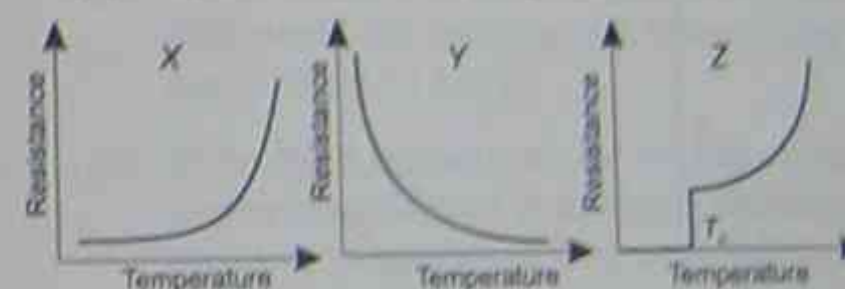

Figure 3.41
- 13 Graphs of resistance versus temperature for three materials X, Y and Z are shown in Figure 3.41. X, Y and Z are respectively:
- (A) semiconductor, metal, superconductor